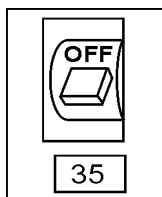

Figure 11. Main Circuit Breaker (OFF)
2. **NEVER** start the engine with the main circuit breaker in the **ON** position. Always place circuit breaker (Figure 11) in the **OFF** position before starting.